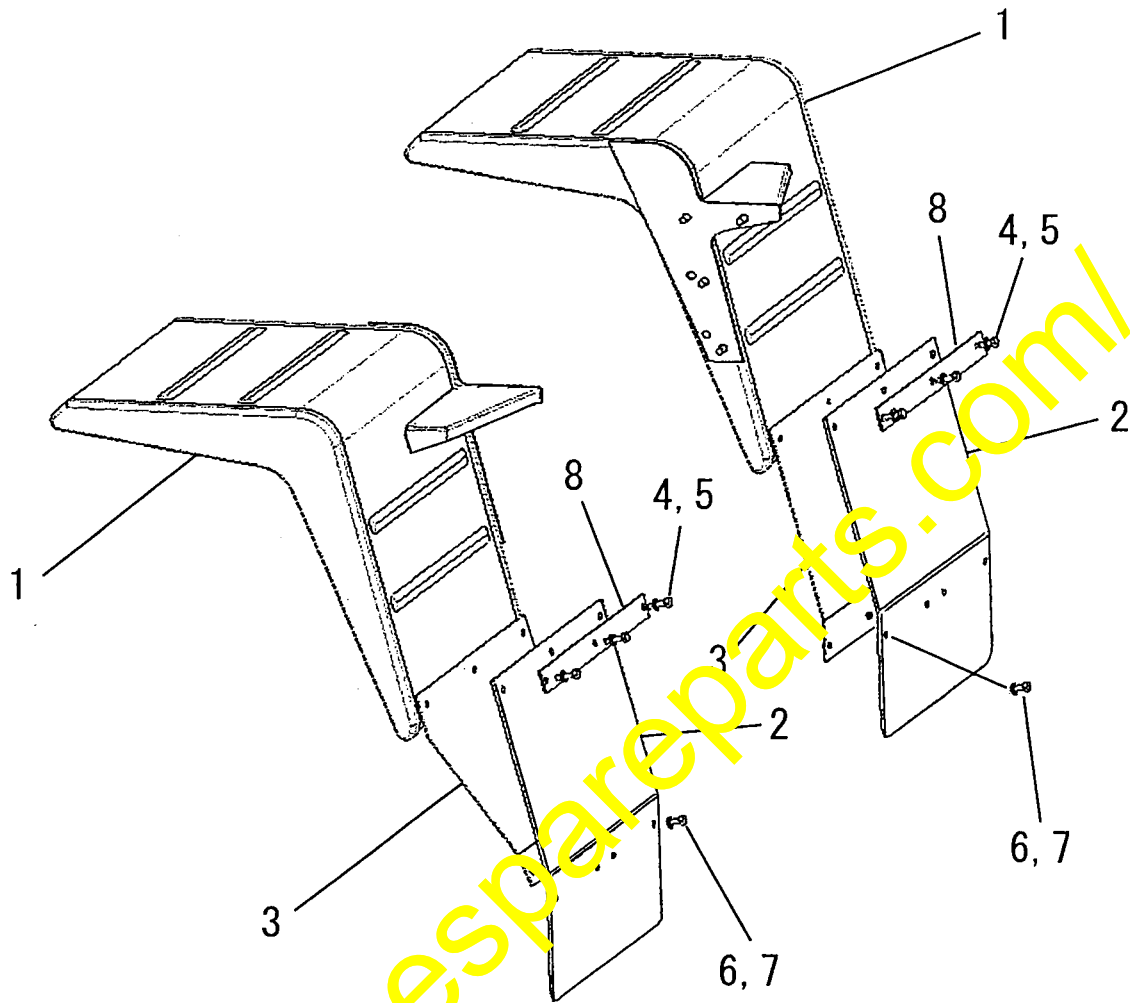

Fig. 10
- (3) Referring to Fig. 10, reassemble the mudguard sheet for the front fender and the mudguard support plate.